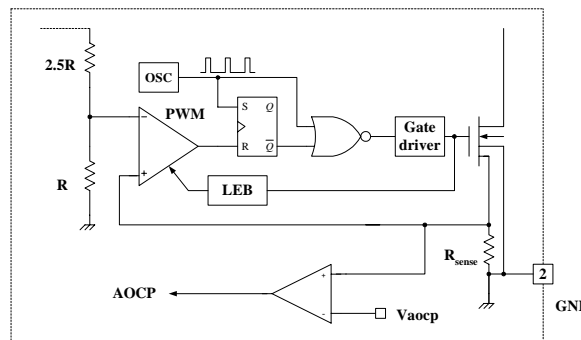

Figure 9. Abnormal over current protection
4.2 Abnormal Over Current Protection (AOCP): When the secondary rectifier diodes or the transformer pins are shorted, a steep current with extremely high di/dt can flow through the Sense FET during the LEB time. Even though the FSQ-Series has OLP (Over Load Protection), it is not enough to protect the FSQ-Series in that abnormal case, since severe current stress will be imposed on the Sense FET until OLP triggers. The FSQ-Series has an internal AOCP (Abnormal Over Current Protection) circuit as shown in Figure 9. When the gate turn-on signal is applied to the power Sense FET, the AOCP block is enabled and monitors the current through the sensing resistor. The voltage across the resistor is then compared with a preset AOCP level. If the sensing resistor voltage is greater than the AOCP level, the set signal is applied to the latch, resulting in the shutdown of SMPS.